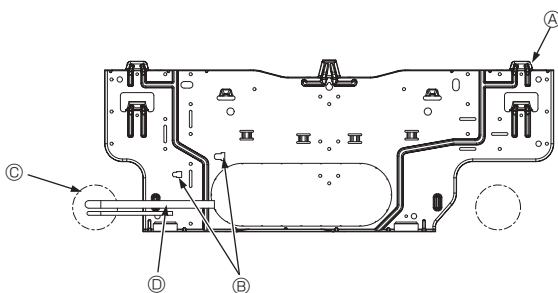

Fig. 3-5
3.3. When embedding pipes into the wall (Fig. 3-5)
- Ⓐ Mount board ①